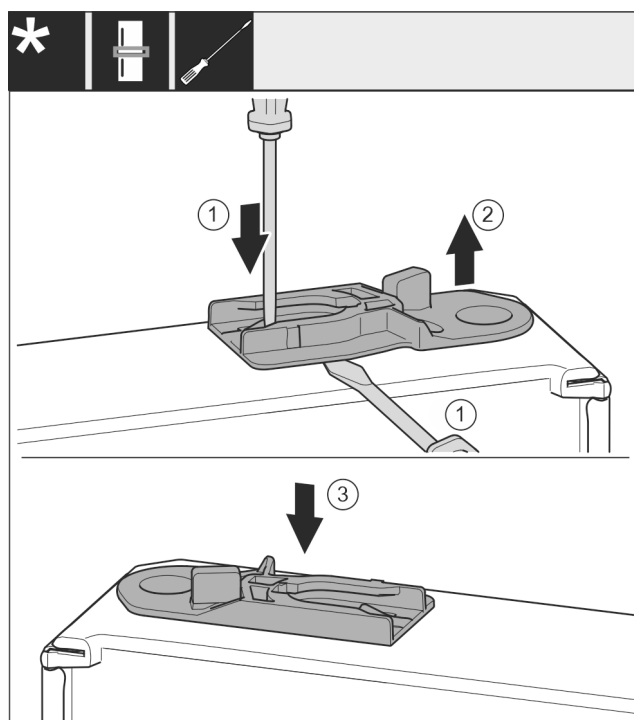

Fig. 41
- Pull out the guide bushing: Press the tab Fig. 41 (1) with the slotted screwdriver while running the slotted screwdriver under the guide bushing Fig. 41 (2) at the same time.
- Insert the guide bushing Fig. 41 (3) supplied in the scope of delivery on the other side of the housing.